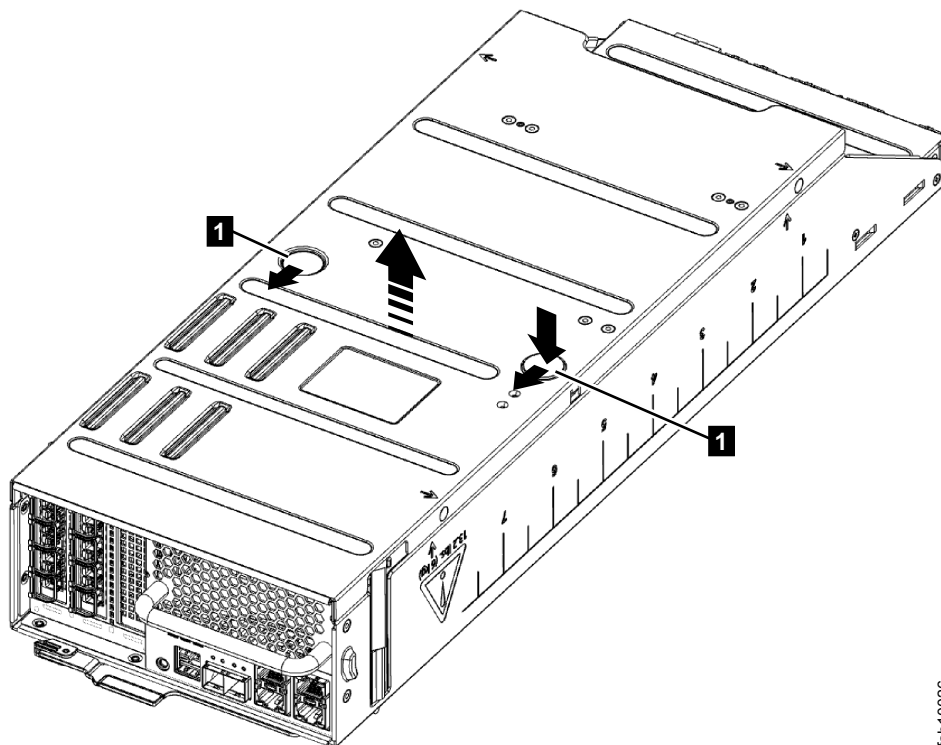

Figure 78. Replacing the canister cover
2. Open the cover of the canister by depressing the recessed, blue touch points on the lid and sliding the lid away from you, as shown in Figure 78 on page 287.